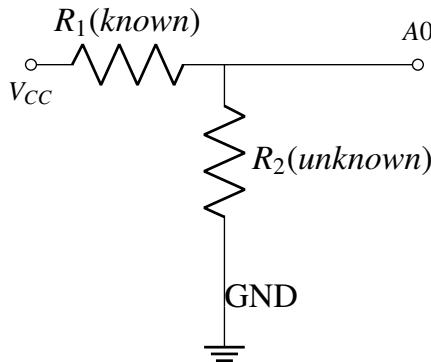

Fig. 15.1: Voltage Divider
- Let R_1 be the known resistor and R_2 be the unknown resistor. Connect R_1 and R_2 in series such that R_1 is connected to GND and R_2 is connected to V_{cc} . Refer to Fig. 15.1
12. The Ohm meter in this manual works on the principle of the voltage divider shown in Fig. 15.1.